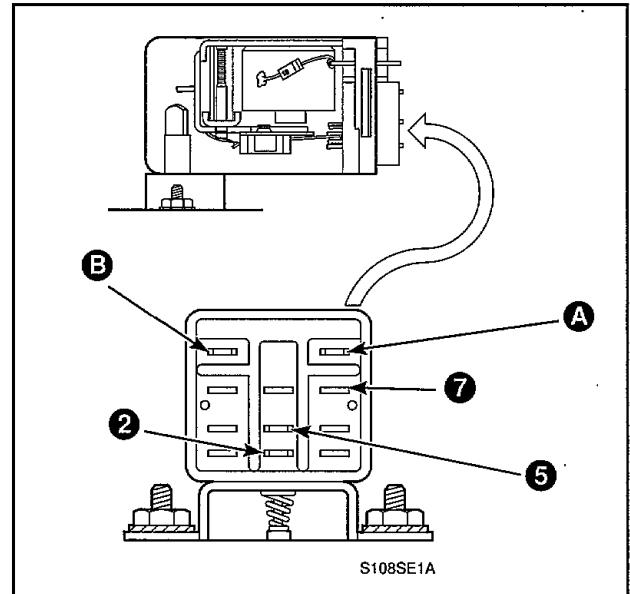

Figure 52
- For continuity check, place meter probes to terminal No. 7 (common) and to terminal No. 2 (normally closed), *Figure 52*.
- Reset switch contacts by momentarily engaging solenoid. For continuity check, place meter probes to terminal No. 7 (common) and to terminal No. 5 (normally open), *Figure 52*.
- SOLENOID** — For voltage check, place meter probes to solenoid terminals "A" and "B", meter should read 120 Volts when softener light comes on, *Figure 52*. For continuity check, meter should read approximately 1800 Ohms plus or minus ten percent.